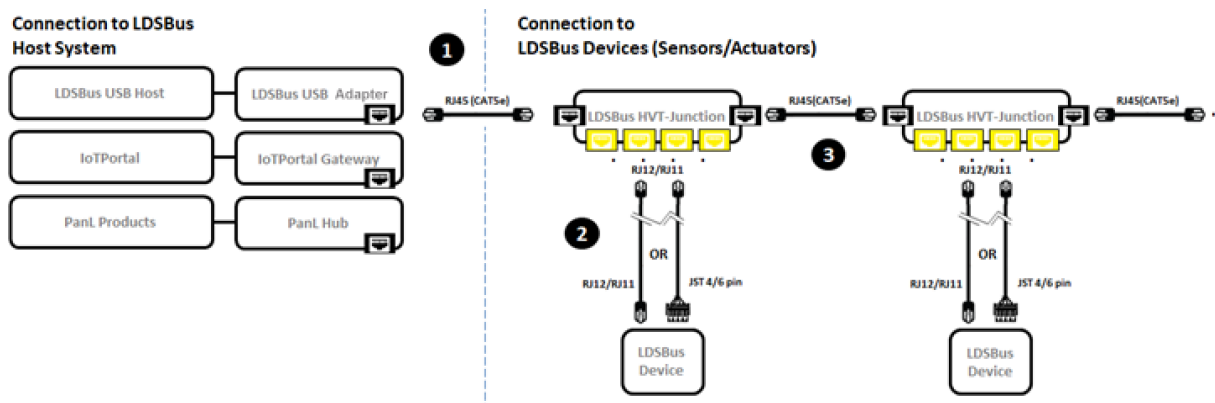

Figure 2 - LDSBus Isolated IO controller - Connection Diagram
Figure 2 illustrates the connection of the LDSBus Isolated IO Controller (LDSBus Device) to the LDSBus. Please visit <https://brtsys.com/resources> to view the full device application, setup and installation guides.
2. Connect the configured LDSBus Isolated IO controller to the LDSBus HVT-Junction as shown in Figure 2.
3. If there is more than one LDSBus HVT-Junction, chain them together as shown in Figure 2.